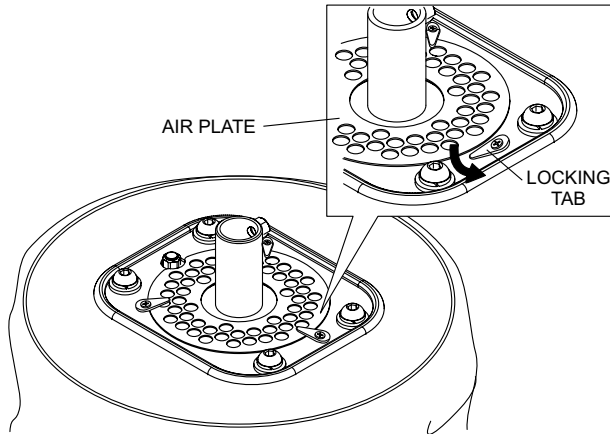

Figure 34. Accessing Filter
2. Turn the balloon/lamp assembly upsidedown to access the filter. See Figure 34.
3. Turn the three locking tabs outwards to release the air plate. See Figure 34.